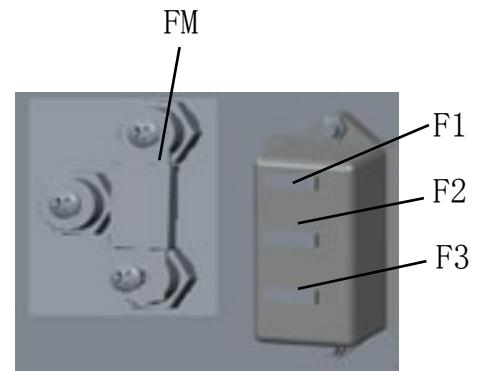

Figure18
- 1) Remove the electrical component box cover (47).
- 2) Check/replace the following fuse (Fig. 18):
- 4) Check/replace the relevant fuse among the following (Fig. 18):